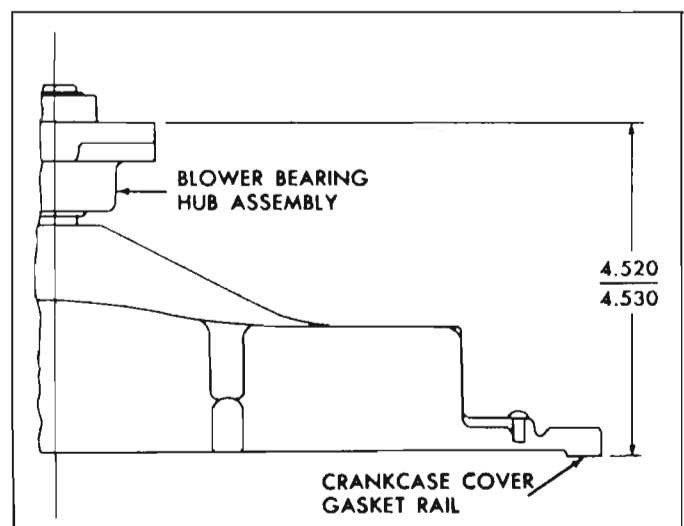

Fig. 6A-21—Blower Bearing and Crankcase Cover Assembly
4. Press on shaft of blower bearing, and press assembly in place to a height of 4.520" as shown in Figure 6A-21. 4.530"